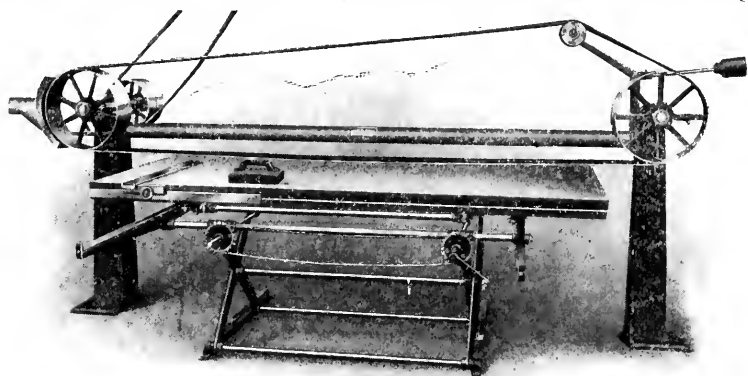

Fig. 51—BELT SANDER
**52. Belt Sander--** A typical style of belt sander is shown in Fig. 51.